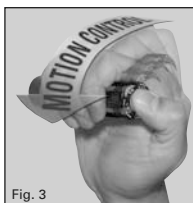

Fig. 3
||||| means you can turn the flashlight on and adjust brightness using **1 Click**. Starting with the flashlight off, **press and hold down** the switch button while rotating the flashlight left and right (see Fig. 3) to vary the brightness. When you see the desired brightness level, **release the button** to keep that setting. Turn the flashlight off with **1 Click**. The XL200™ remembers your selected brightness setting, so when you turn the light on with **1 Click**, your selected brightness level will reappear. Your selection will stay in effect until you either (1) change it by repeating the above steps or (2) remove the tailcap, wait a moment, and replace it.
••• means that you can make the flashlight produce a **strobe (blinking) effect** using **2 Quick Clicks**. Starting with the flashlight off, **press the button twice** (about as quickly as you would say “Click Click”) **but hold it down on the second press**. Rotate the flashlight left and right (see Fig. 3) while holding down the switch button to vary the blink rate. When you see the desired blink rate, **release the button** to keep that setting. As above, use **1 Click** to turn the flashlight off. When you turn it on again with **2 Quick Clicks**, it will strobe at your selected blink rate, which will stay in effect until you change it as above.
><<< means that you can put the flashlight in **Signal mode** using **4 Quick Clicks**. Starting with the flashlight off, **click the switch button four times**. You can then use your flashlight as a silent signaling device: Turn it on and off noiselessly simply by rotating the flashlight (as in Fig. 3). **1 Click** turns the flashlight off.